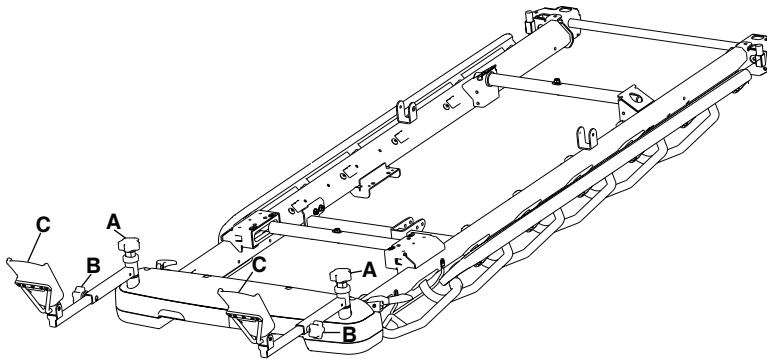

Figure 21 – Positioning the foot supports
1. Loosen the knee knob (A) at the top of the foot supports to adjust the side-to-side angle of the foot supports (Figure 21).
2. Tighten the knee knob (A) to lock the foot supports in the desired position.